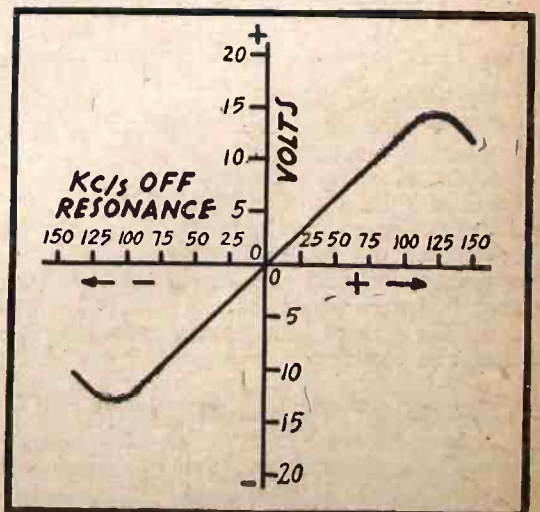

Fig. 3—Chart shows variation of diode response with carrier shift from zero frequency.
4. A modulator of the Van der Bijl type using the principles of non-linear impedance to suppress the carrier. Fig. 3.
The process of inversion can probably best be described by following Fig. 3 of the speech inverter unit using the Van der Bijl type non-linear impedance principle to suppress the carrier. The carrier and the signal source are connected in series and applied to the grid of a negatively biased tube, a 7N7 in the circuit shown. By connecting two of these in push-pull, the carrier is suppressed and the two side-bands
The chart shown in Fig. 3 illustrates how the output of the two diodes will vary with frequency change.